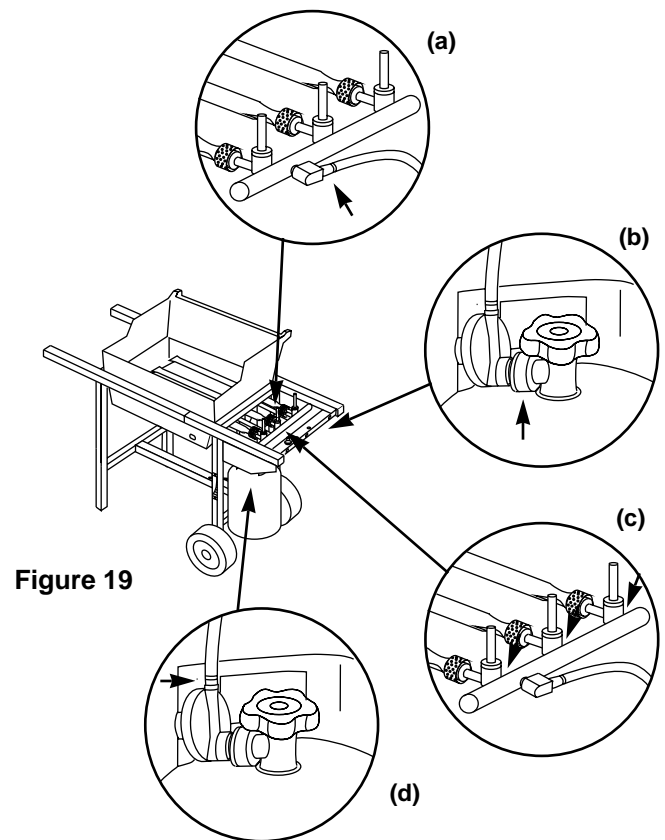

Figure 19
- Hose to manifold connection. Figure 19 (a).
- Regulator to tank connection. Figure 19 (b).
- Valves to manifold connections. Figure 19 (c).
- The hose to regulator connection. Figure 19 (d).